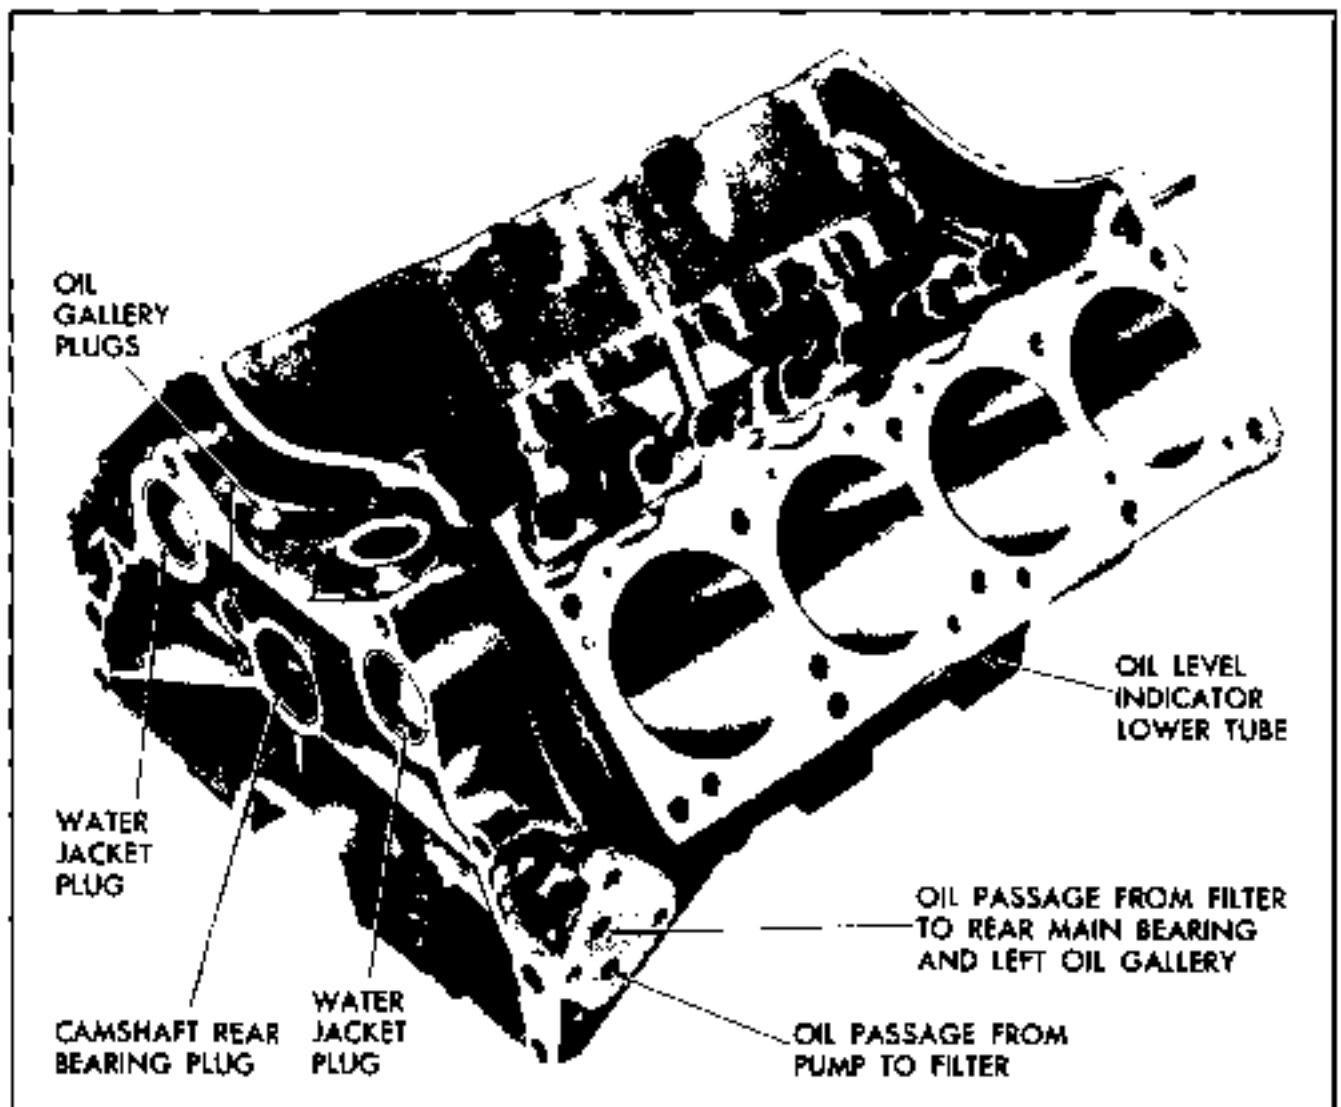

Fig. 6-129 Cylinder Block - View From Right Rear
2. Check passage from filter outlet to rear main bearing by inserting wire in oil filter outlet passage and using pen light to see that wire is visible in passage to rear main bearing (Fig. 6-129).
6. Check oil passages to right bank lifter bosses. Use rubber hose to blow smoke in passage from front main bearing to right main oil gallery while observing for smoke passing out passages from right gallery to lifter bosses (Fig. 6-129).